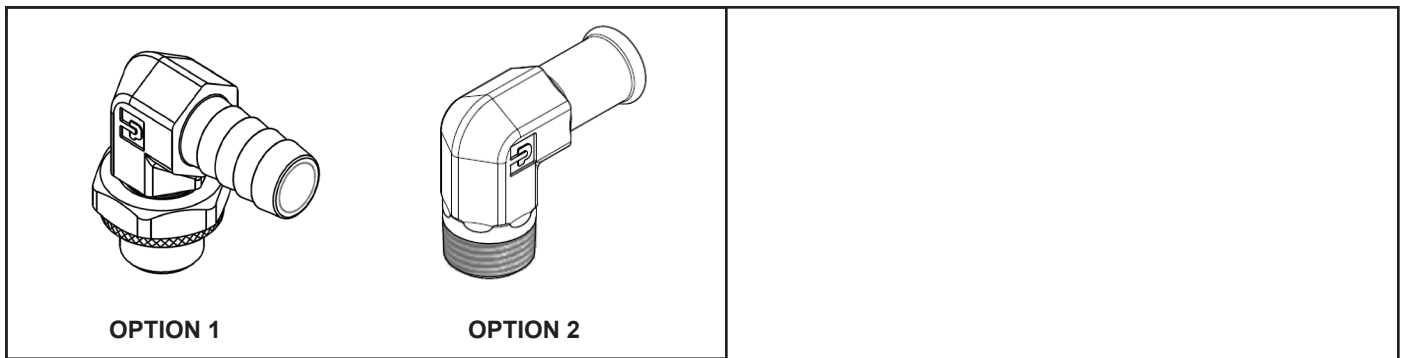

FIGURE 12A - TOP COOLANT FITTING OPTIONS
- There are two options for the top coolant fitting (36). Identify the fitting you have from the two options shown in Figure 12a and follow the steps for installation.